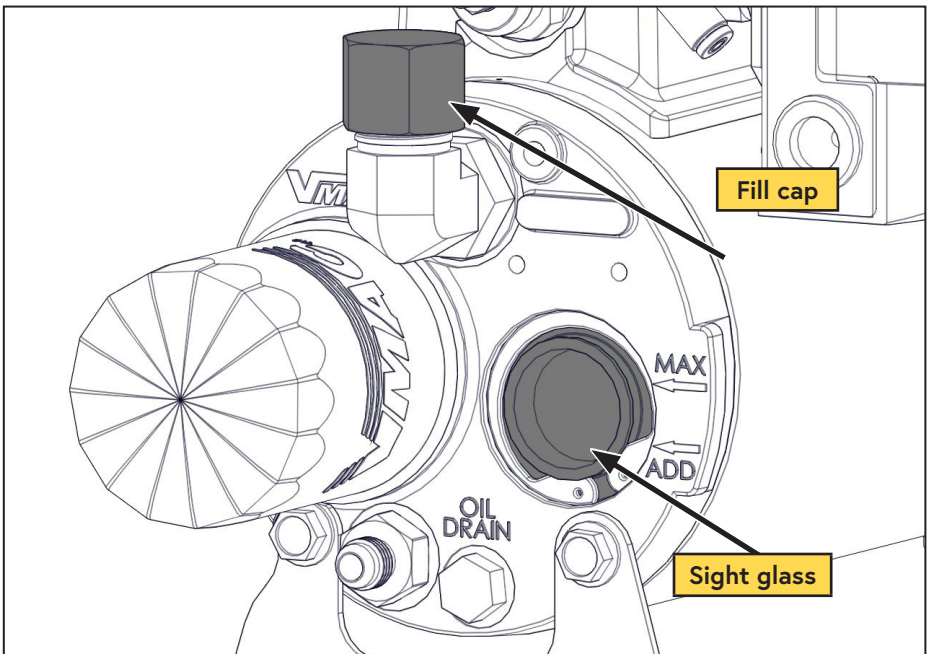

Figure 28 — Filling the WHASP Tank
- Remove the fill cap on the WHASP Tank (above the sight glass) (Figure 28).
- Using a funnel, pour oil into the tank until the oil level in the sight glass reaches the "MAX" line. **The system capacity is 4 L** (Figure 28).